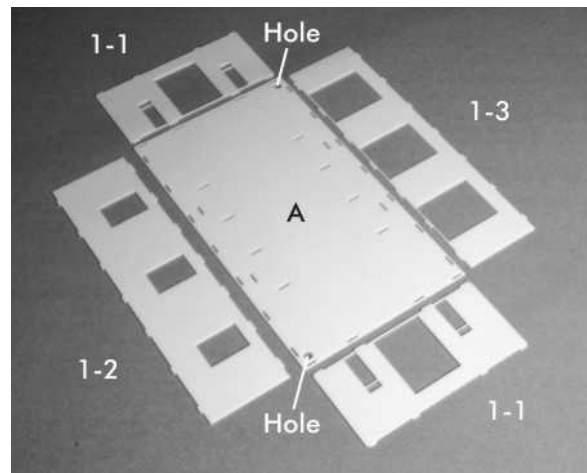

Figure 1
This structure is symmetrical with the exception of the two long sides of Unit 1. As such, most of the wall parts are identical. The two short sides will be referred to as the “end” walls. The two longer sides will be referred to as the “turbine” and “generator” sides. This orientation is important to the relationship of the turbines to the main power plant structure. Figure 1 shows base part (A) face up with the first set of wall parts ready to install into their appropriate places.
Begin by taking base (A) and laying it flat on your work surface with the engraved part number facing up and in the front right corner of the piece. This will position a small hole in the back right and front left of the part. These holes will line up with holes in part (B) that may be used to thread wire through the model if you want to light it. Insert the tabs of one “end” wall (1-1) into the slots of part (A) and glue in place (see Figure 1 for orientation). Note that the tabs on the top and bottom of the wall parts are different sizes, and the engraved side of the part should be facing out.